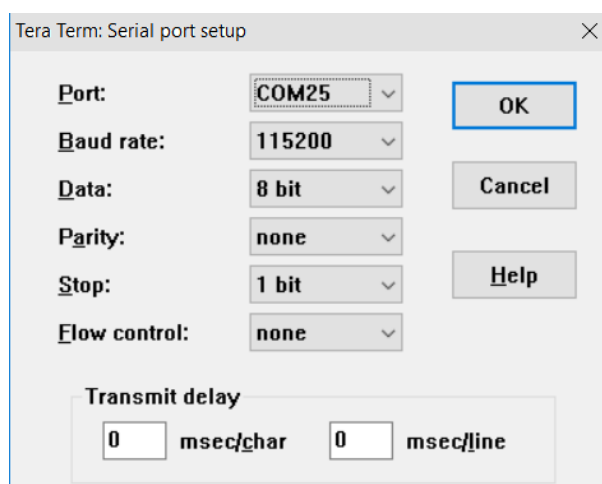

Figure 3: UART configuration for serial connection with TeraTerm
2. Connect the DWM1001-DEV to the PC over USB and launch TeraTerm. Click on the "Setup Tab", select "Serial Port". The serial port configuration should be as defined as in Figure 3. Please note the port number may vary as it depends on the PC configuration.